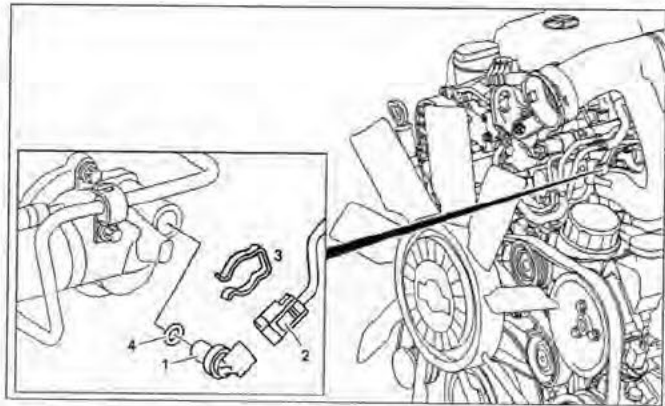

Figure 6 (shown with sensor removed)
16. Disconnect engine coolant temperature sensor connector (2, Figure 6) (do not remove sensor).